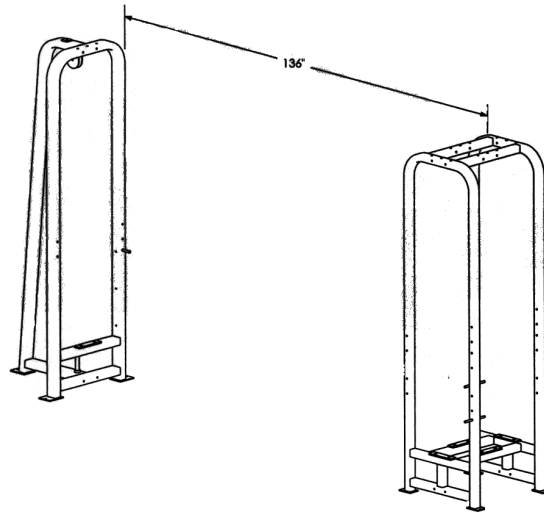

Figure 3. Set the weight stack cells.
1. **Place the two weight “cells”** in their final resting spots. The cells will be approximately 11’4” apart as shown in Figure 3.
The part shown in Hardware Figure 3 is the 9/16" cable jam nut that's used to secure the cables to the weight stacks.
Hardware Figure 3. Cable jam nut.